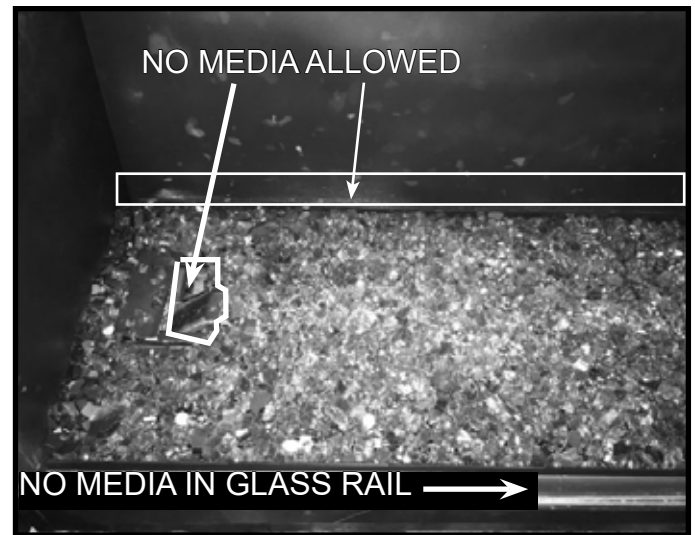

Figure 6. Media Installed
8. **DO NOT** allow media to fall between the media tray and the back of the firebox. Remove any fallen media before proceeding. See Figure 6.
12. Remove any glass media that may have fallen in the bottom glass rail. Glass will not install properly if media is present in glass rail. See Figure 6.